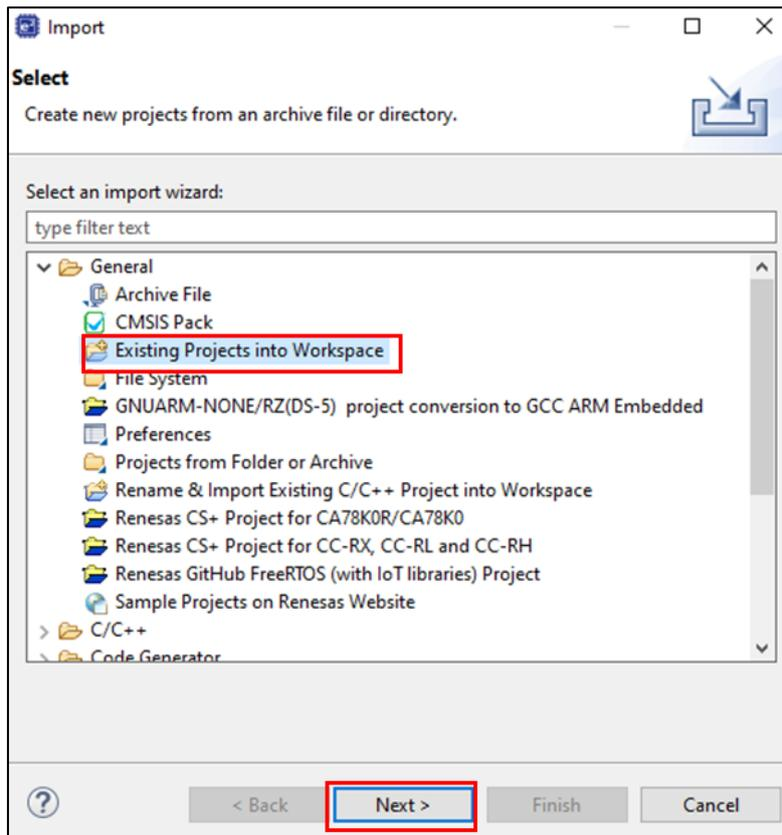

Figure 3-5. Import sample project (1)
(3) Open e² studio and click File » Import
(4) Double-click General and select Existing Projects into Workspace as shown in Figure 3-5: